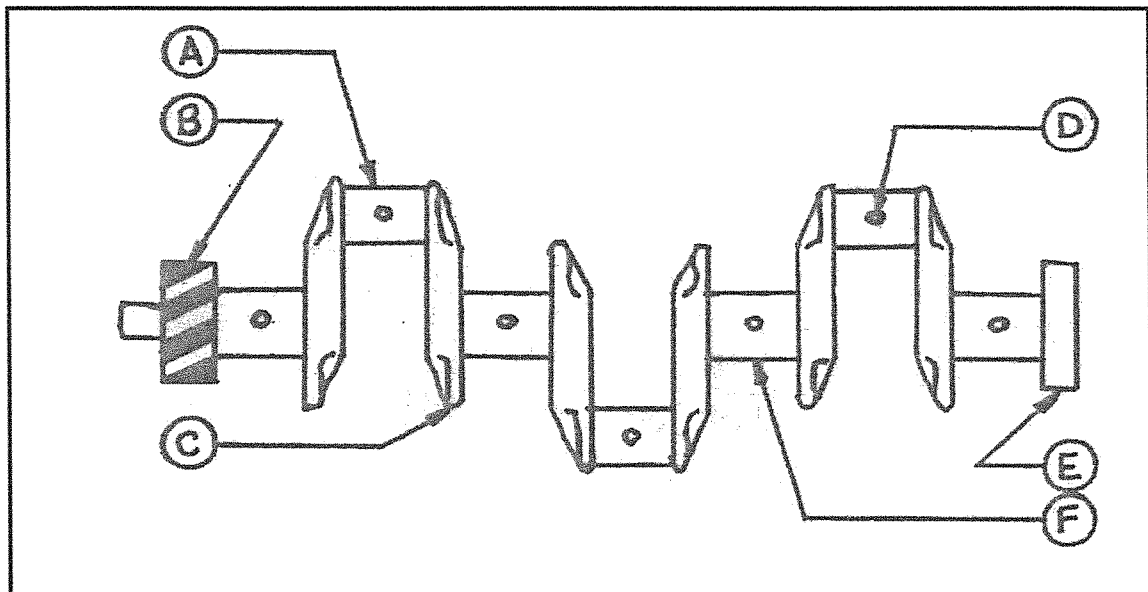

FIGURE 2
- 2.1 FIGURE 2 below, shows a sketch of a crankshaft of an internal combustion petrol engine. Name the parts marked (A–F) in the ANSWER BOOK.